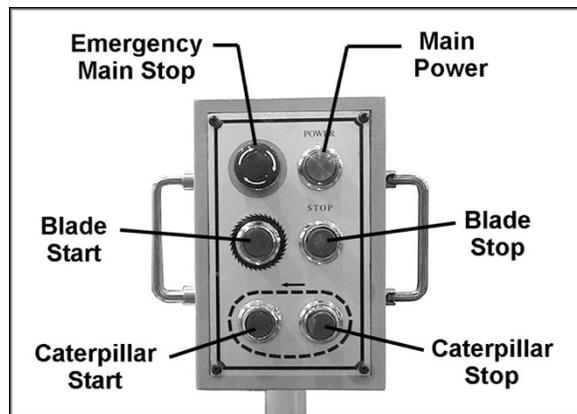
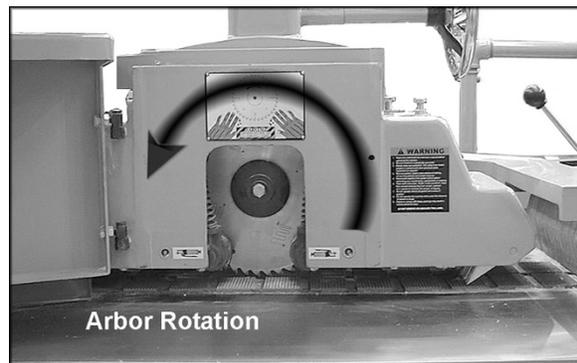

Figure 5
Figure 6
The buttons on the control panel are explained in Figure 5. After making electrical connections, the machine should be turned on to verify the direction of rotation. The blade arbor should rotate counterclockwise when viewed from front of machine (Figure 6). If rotation is wrong, turn off the machine, disconnect power and switch any two of the three electrical leads.
**IMPORTANT:** The emergency stop button (Figure 5) shuts down all operations on the machine simultaneously. To release the emergency stop button, twist it clockwise.
5. Remove screw and flange and install new blade, making sure to orient it properly - the teeth at bottom of blade should face toward infeed side of machine (as shown in Figure 6).